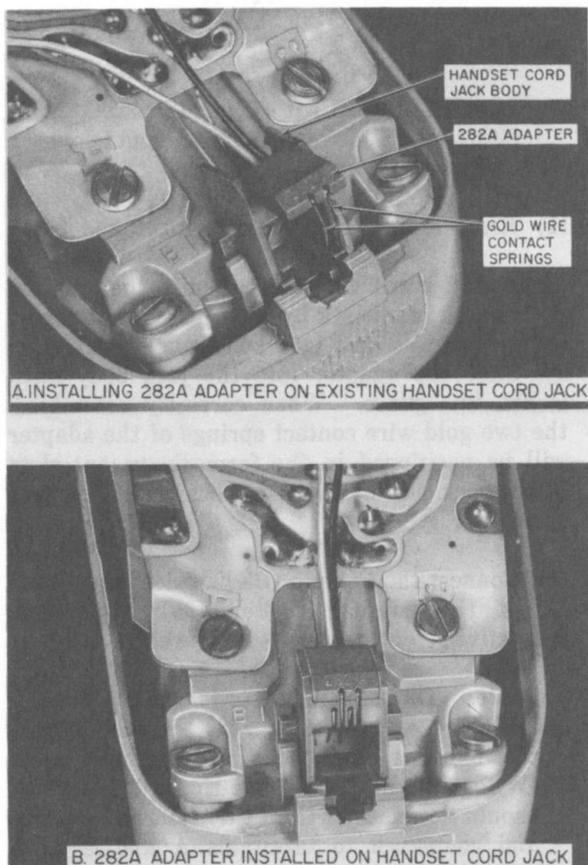

Fig. 9—D-180825 Kit of Parts Installed in 220C, 226A, 2220C, or 2226A Hand Telephone Set
- (1) Remove shell from handset, 3.01 and 3.02.
- (2) Install the 282A adapter onto the existing handset cord jack by positioning the adapter on the handset cord jack body as shown in Fig. 9. Slide the adapter into the jack body until locked into place. When correctly assembled, the two gold wire contact springs of the adapter will be positioned in the formerly vacant slots of the jack paralleling the existing gold contact springs (Fig. 9).
- (3) Connect the (Y) and (BK) spade-tipped leads of the adapter to terminals A and 4, respectively, of the network.